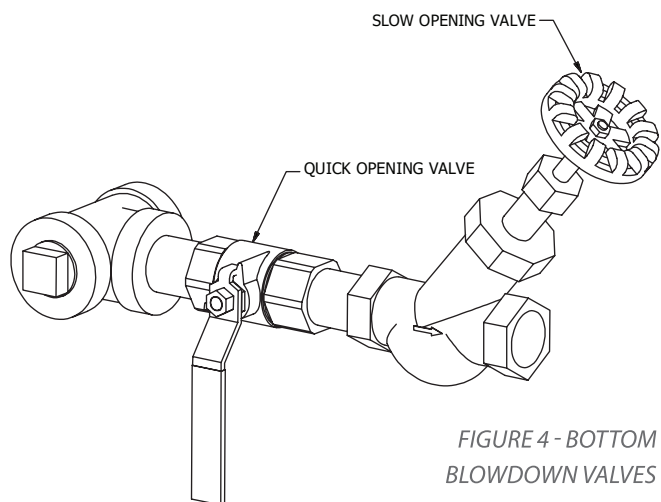

FIGURE 4 - BOTTOM BLOWDOWN VALVES
1. Blow down the boiler each morning by starting the boiler and generating not more than 10 PSI (.7 kg/cm2) of steam. Turn on cooling water to blowdown tank, if equipped, then open the boiler blowdown valve for approximately 10 seconds, then close valve. See Figure 4. Be sure that the slow opening valve (Y-Valve) is adjusted properly. The slow opening valve is to be adjusted so that only 1-2” of water empty from the boiler sight glass during the 4-10 second bottom blowdown. If a manual method of cooling water is used, be sure to shut off the cooling water supply. If there are two bottom blowdown connections on the boiler, both should be blown down daily.